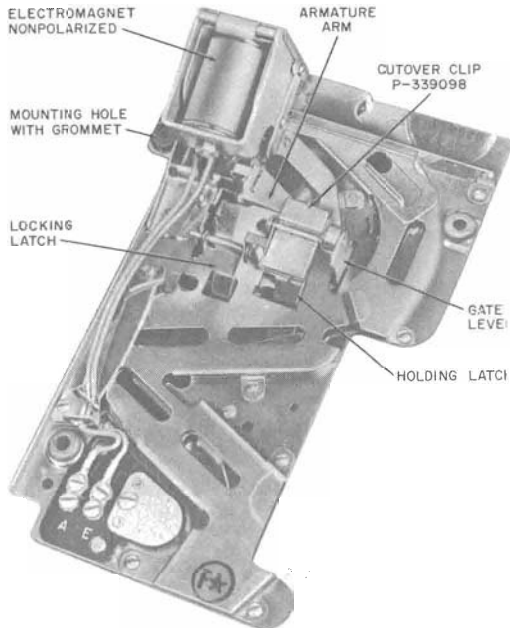

**Fig. 24—Gong Signal and Chute Assembly**
**5.10** Generally, the gong signal and chute assembly (Fig. 24) consists of a coin chute, including electromagnet, and a gong assembly with signal transmitters.
**5.21** The gong assembly is mounted on the coin chute, as shown in Fig. 24. It consists of a supporting bracket on which are mounted the two gongs and their associated signal transmitters. The solid gong for nickel and dime signals and one signal transmitter are mounted on a metal plate. The cathedral gong for quarter signals and the second signal transmitter are mounted on a bracket. The two units are insulated against vibration from each other and from the coin chute by use of rubber grommets at all mounting points. The support bracket also provides a guide to protect the switchhook gate-operating arm from damage when the upper housing is assembled on the backplate.